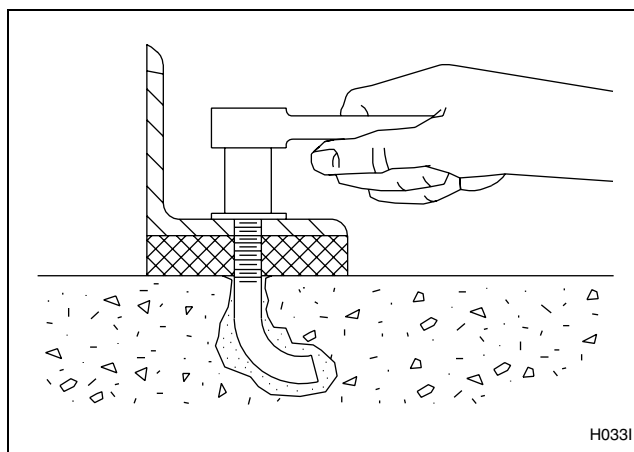

Figure 14
9. If grouting is not desired, position washers and locknuts on J-bolts and tighten the locknuts by even increments – one after the other – until all are tightened evenly and the machine is fastened securely to the floor. Refer to *Figure 14*. Proceed to step 18.
13. After the grout is completely dry, tighten locknuts by even increments – one after the other – until all are tightened evenly and the base frame is fastened securely to the floor. Refer to *Figure 14*.